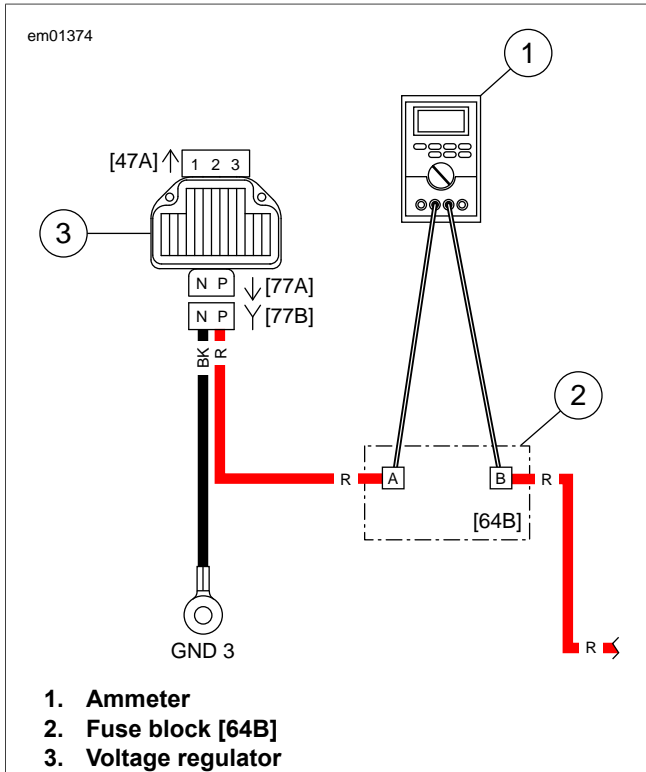

Figure 3-11. Milliampere Draw Test (Ignition Turned to OFF)
4. See Figure 3-11. Using HARNES CONNECTOR TEST KIT (Part No. HD-41404), connect ammeter to main fuse socket terminals. With this arrangement, you will also pick up any regulator drain.